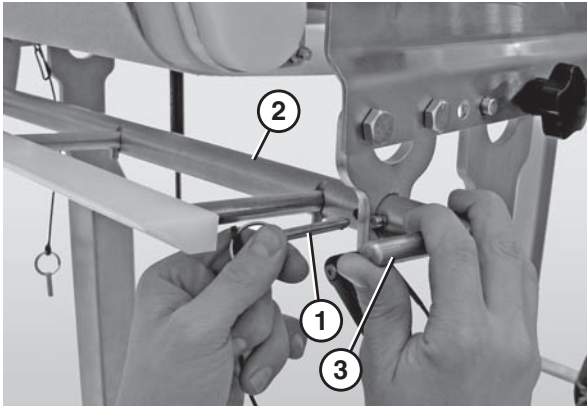

Figure 34
6. Insert the pin (Figure 34, item 1) to lock the scraper bar in place (Figure 34, item 2).
7. Adjust the scraper to the desired position using the scraper bar handle (Figure 34, item 3).